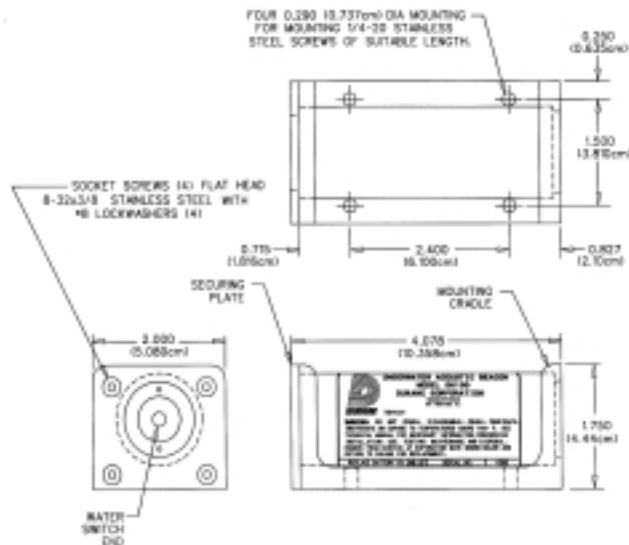

Figure 3. N30A26 Series Mounting Kit Installation Details
2.6.1. GENERAL. Model N30A26 Series Mounting Kit (Cradle Type) is an aluminum extrusion with a screw-attached securing plate that provides rugged mounting and protection of the beacon within the aircraft. See Figure 3. The beacon should be mounted horizontally with the switch end forward, if possible. If vertical mounting is necessary, switch end must be mounted downward to prevent accumulation of dirt, grease and water on the switch end.
A. Using Figure 3 as a guide, locate the four 0.290 inch (0.737 cm) diameter holes on 1.500 by 2.400 inch (3.810 by 6.100 cm) centers. Be sure access to the securing plate end is available for future beacon installation and removal. Approximately 4.5 inches (11.43 cm) clearance should be allowed for beacon removal.
C. Secure the mounting cradle to the aircraft structure with four 1/4-20 stainless steel screws and associated washers and nuts (not furnished), as shown in Figure 3. Alternate mounting with threaded holes may be employed where structure does not permit nuts on rear side.